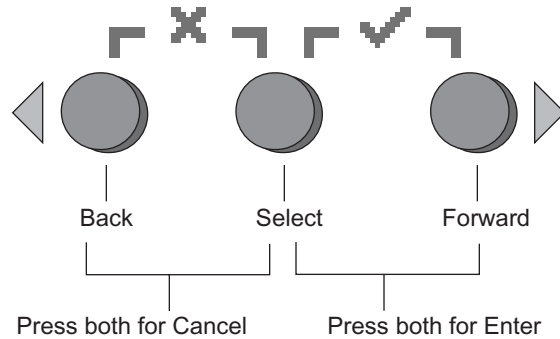

FIGURE 1-6 Operator Panel Buttons
1. **Press any operator panel button on the server front panel (see FIGURE 1-6).**